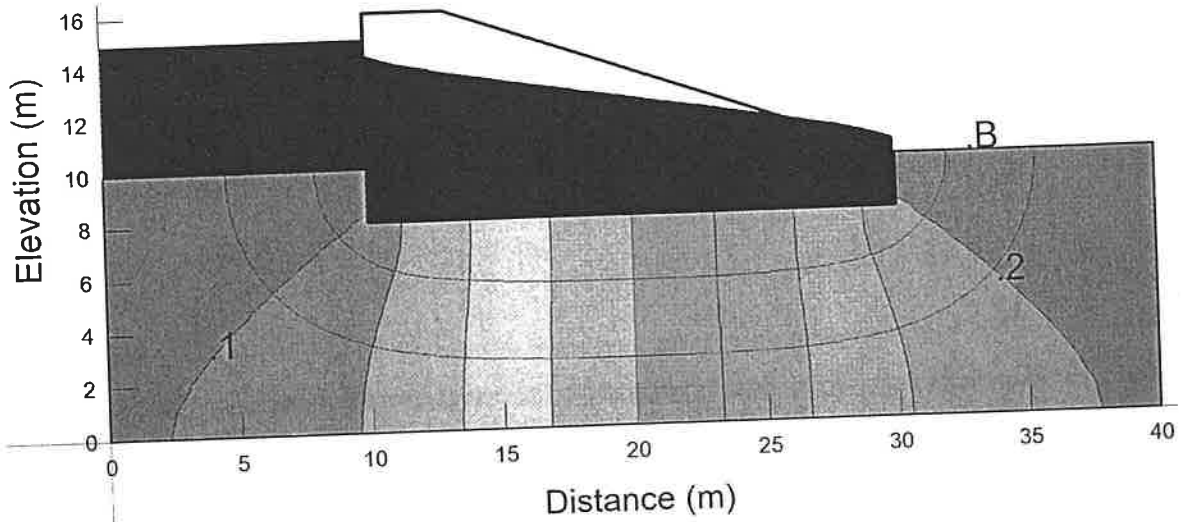
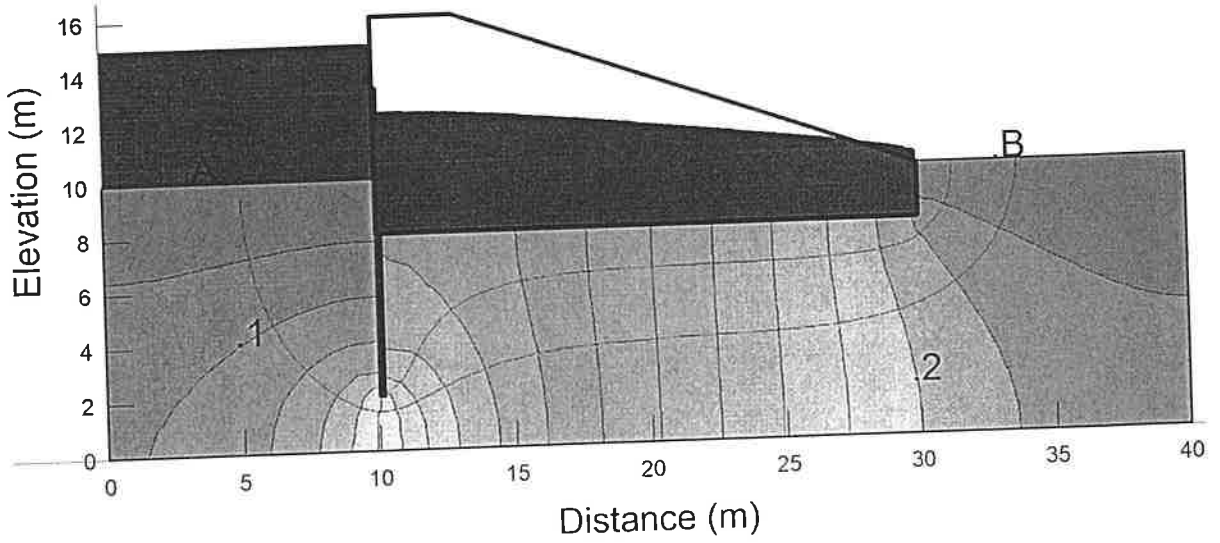

Figure Q5-1a.
Figure Q5-1b.
1. Two configurations are shown in **Figure Q5-1a** and **Figure Q5-1b** for a concrete dam constructed on a saturated homogeneous clay layer. The conductivity of the clay layer is 4×10^{-6} m/s.
For BOTH **Figure Q5-1a** and **Figure Q5-1b** you are asked to: